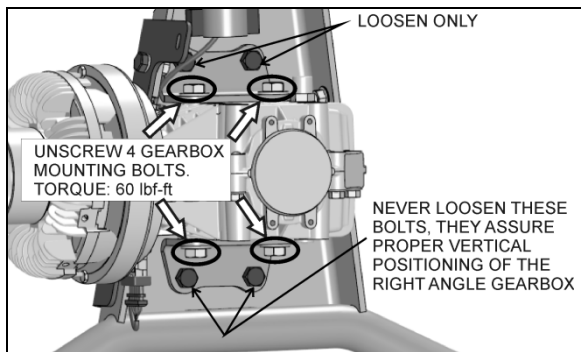

FIGURE 37: RIGHT ANGLE GEARBOX 05126
6. Loosen the gearbox support bracket top bolts (Figure 37).